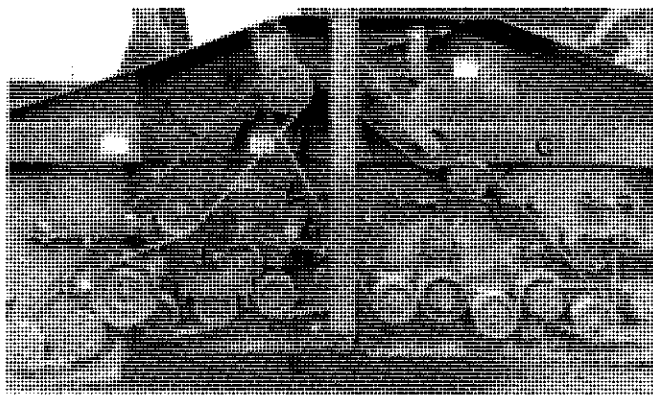

FIGURE 25 - LEFT HAND DRIVES
The conveyor rolls and grab roll drive belts are tensioned by spring loaded idlers. (see figure 25). These should be tightened so the springs are compressed to 5 1/2" for the front '2B' conveyor roll (A), 4 1/2" for the rear '4B' conveyor roll (B) and 4 1/2" for the grab roll (C) drive belt. Recheck tension if slippage occurs.